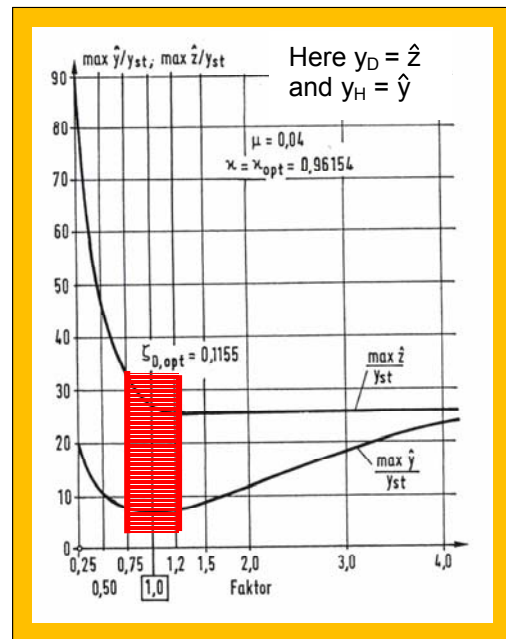

Fig. 9: Deviation of damping with resulting changes of structure and TMD amplitudes for $\mu = 0,04$
Example: In case the deviation of damping is within the range of $\pm 25\%$ to the optimal values (see area marked in red in Fig. 9), there is minor influence on the overall efficiency of the TMD! In Fig. 9 consequences of damping deviation factor on horizontal axis) on the vibration amplitudes of the structure (index y; lower curve) and on the TMD (index z; upper curve) are shown. In general significant changes will result due to deviations greater than $\pm 50\%$. Therefore damping is important, but the structure will react not such sensitive to deviations to the optimal damping values.
- 3) The damping is less important than the above two criteria, as there the biggest deviations are acceptable without creating a significant loss in efficiency (Fig. 9).